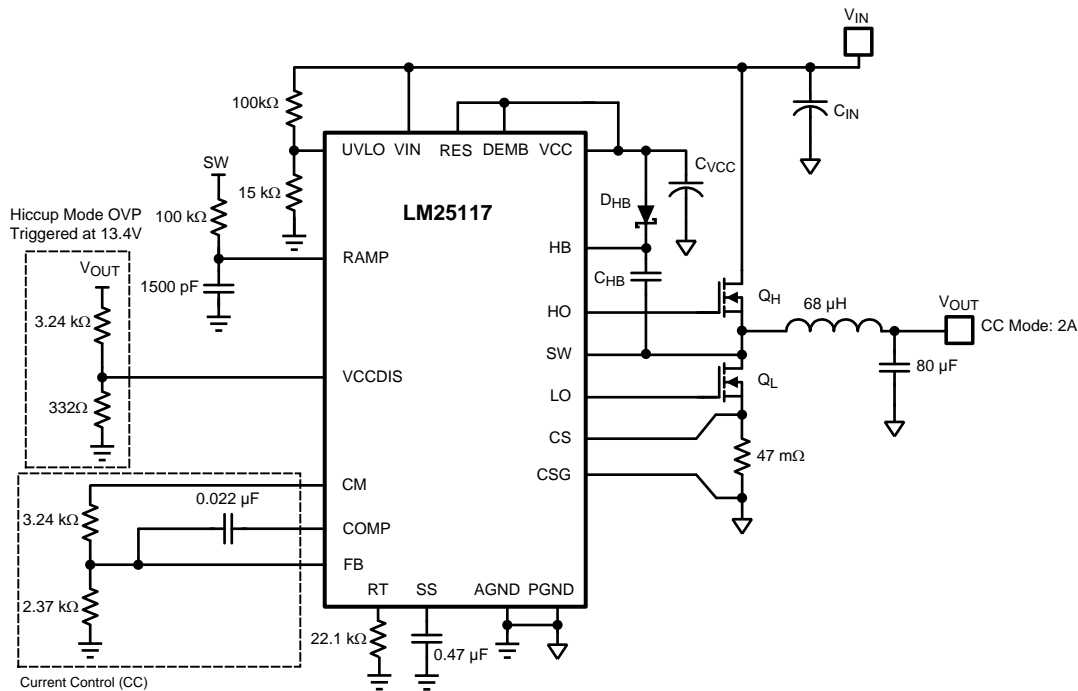

Figure 35. Constant Current Regulator with Hiccup Mode Output OVP
The LM25117 can be configured as a constant current regulator by using the current monitor feature (CM) as the feedback input. A voltage divider at the VCCDIS pin from VOUT to AGND can be used to protect against output over-voltage. When the VCCDIS pin voltage is greater than the VCCDIS threshold, the controller disables the VCC regulator and the VCC pin voltage decays. When the VCC pin voltage is less than the VCC UV threshold, both HO and LO outputs stop switching. Due to the time delay required for VCC to decay below the VCC UV threshold, the over-voltage protection operates in hiccup mode. See Figure 35.